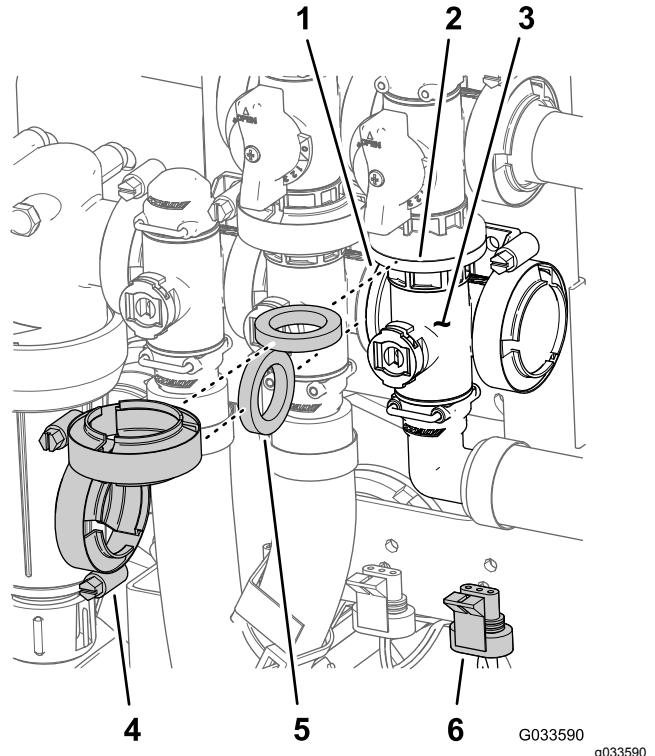

Figure 129
- Align the flange of the master-boom-valve manifold, a gasket, and the flange of the master-boom bypass valve (Figure 129).
- Assemble the master-boom valve manifold, gasket, and master-boom bypass valve with a flange clamp tightened hand tight (Figure 129).
- Align the flange of the master-boom-valve manifold, a gasket, and the agitation-valve manifold (Figure 129).
- Assemble the master-boom-valve manifold, gasket, and agitation-valve manifold with a flange clamp and tighten by hand (Figure 129).
7. Assemble the agitation valve to the valve mount with the flanged-head bolt and flanged locknut (Figure 129) that you removed in step 3 of Removing the Master Boom Manifold Valve (page 81) and torque the nut and bolt to 10 to 12 N·m (90 to 110 in-lb).